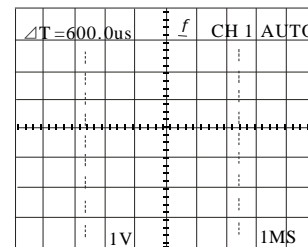

Fig.5-3
5.2.1.1 ΔT measurement (See Fig.5-3)